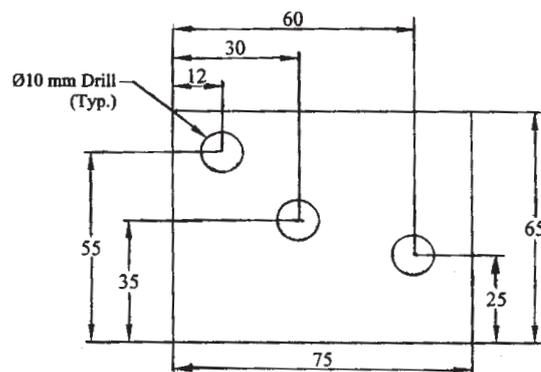

**Fig.6**
- b) Write a manual part program for the component shown in Fig. 6. Assume the raw product as cast iron and the machining is to achieve the various dimensions. [8]